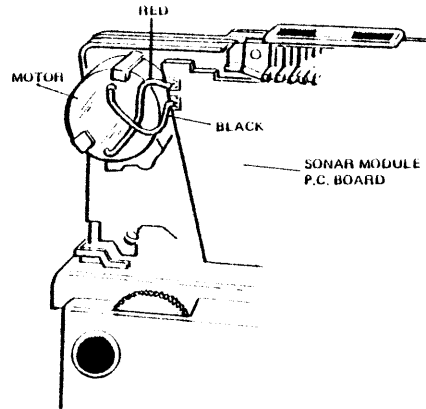
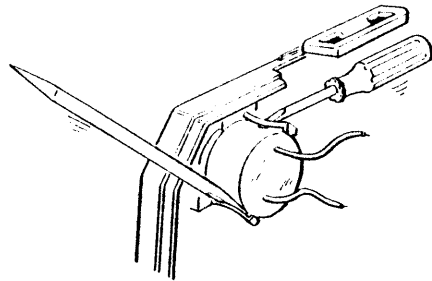
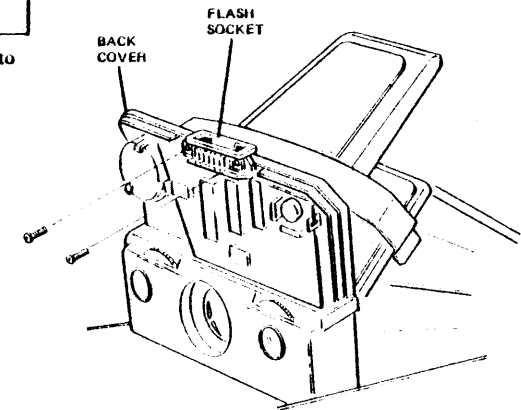
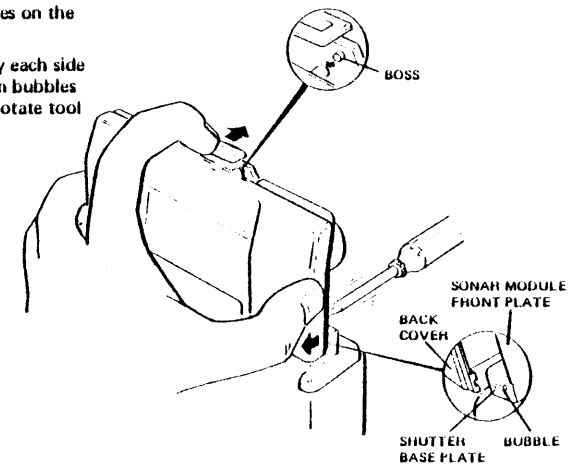

FIGURE 4-5
FIGURE 4-6
FIGURE 4-8
FIGURE 4-9
1. Move back cover vertically down onto shutter base plate until it snaps into place over the two bubbles on each side of the base plate (see Figure 4-8).
2. Reattach flash socket with two self-threading screws (see Figure 4-8).
3. Push the motor into position under the two plastic posts (see Figures 4-6 and 4-7). Solder the red and black leads to the terminals on the P.C. board (see Figure 4-5).
2. Remove upper housing (see Figures 4-1 through 4-3). Remove transducer and bridge (see Figure 4-4). Unsolder two motor leads at sonar module P.C. board (see Figure 4-5). Remove two screws holding flash socket to back cover (see Figure 4-8). Remove back cover (see Figures 4-9 and 4-10). This leaves sonar module assembly attached to shutter base plate.